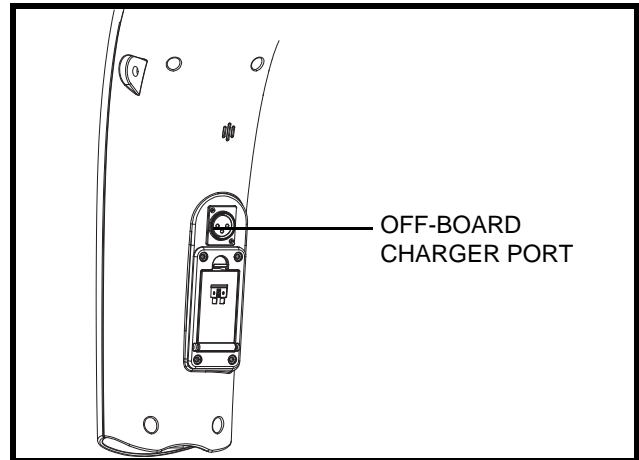

Figure 5. Off-board Charger Port (Tiller Mounted)
The off-board charger power cord plugs into this port during battery charging. The off-board charger port will be located on the tiller. See figure 5.
4. Plug the 3-pin charger power cord into the off-board charger port. **See figures 5 and 11.**